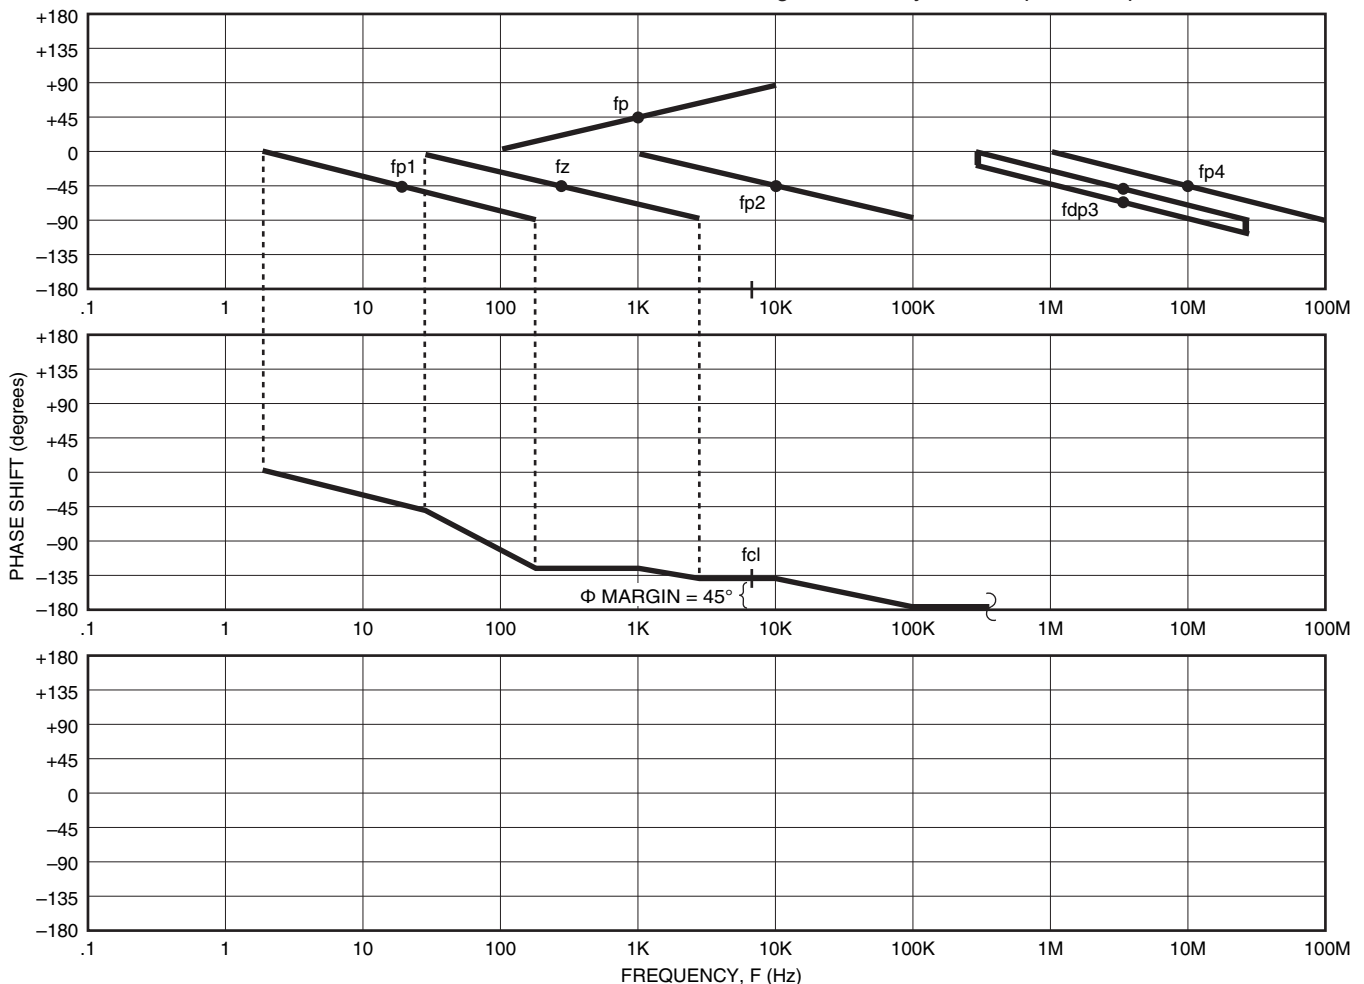

FIGURE 32. NOISE GAIN COMPENSATION OPEN LOOP PHASE PLOT FOR STABILITY
**STEP 4:** Plot open loop phase plot as in Figure 32 from the information given in Figure 31. We see from this plot we have 45 degrees of phase margin.